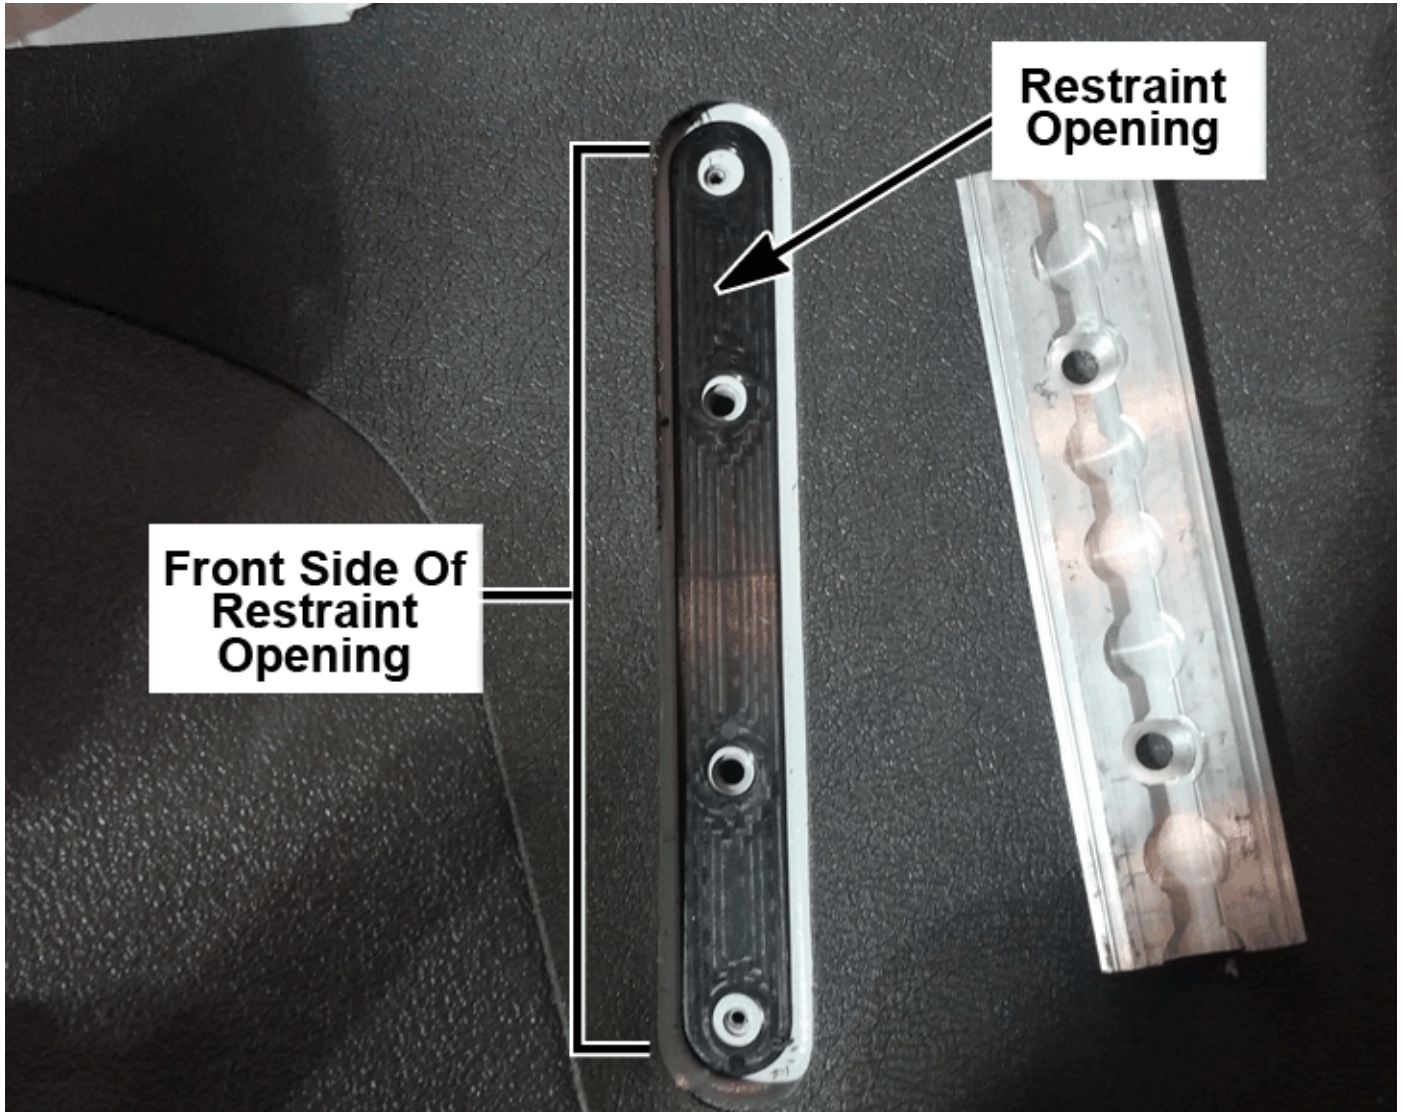

Figure 7: Restraint Opening
- Using a razor type utility knife trim a small amount of flooring from the front side of the restraint opening until the screw holes line up (See Figure 7).